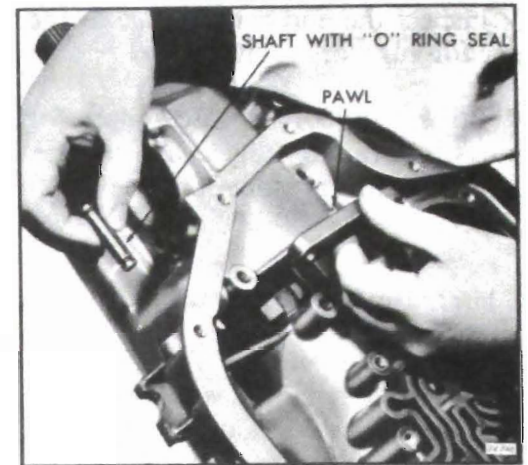

Figure 76-746
1. Install the parking pawl, tooth toward the inside case and parking pawl shaft. See Figure 76-746.